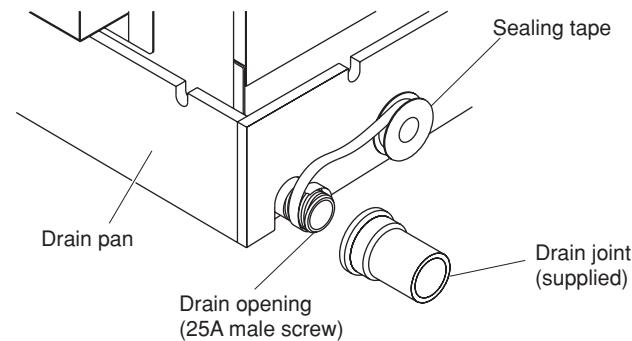

Fig. 3-119a
- (2) If connecting a drain joint (supplied) to the threaded drain port, first wrap the drain port threads with sealing tape, then connect the joint. (Fig. 3-119a)
- (3) After connecting the drain pipe securely, wrap insulator (field supply) around the pipe.